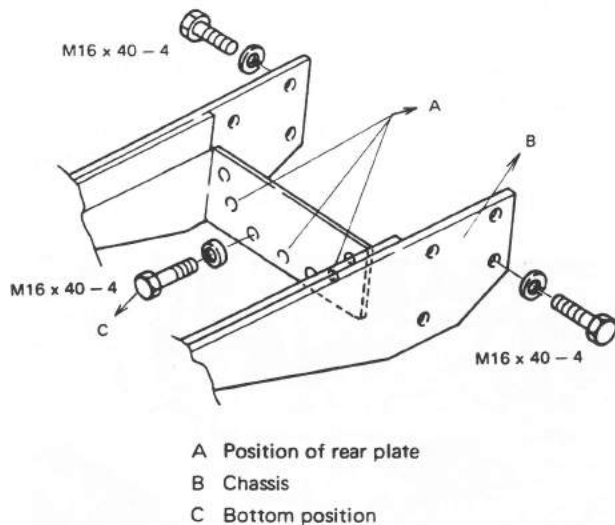

Fig. 8 Installing Bolts of Chassis
9. Unscrew four bolts (M16 x 40) (C) shown in Fig. 8.